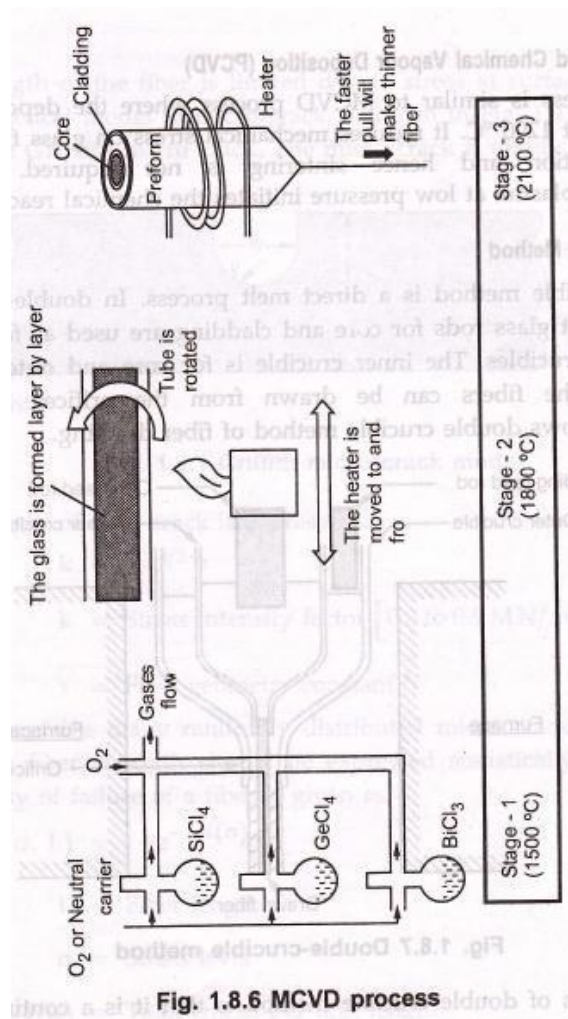

Fig. 1.8.6 MCVD process
- Fig. 1.8.6 (Refer Fig. 1.8.6 on previous page) shows the overall MCVD process.